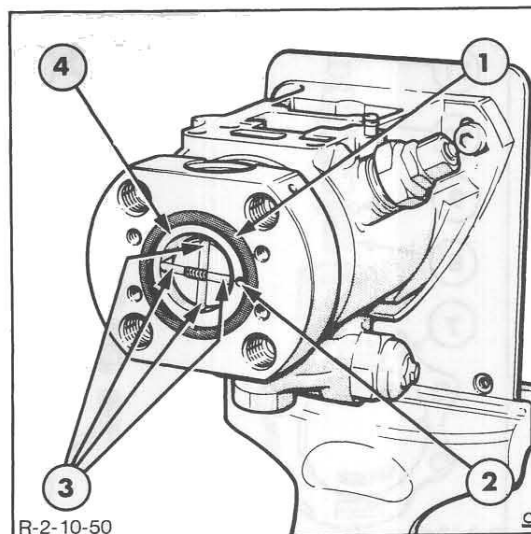

Figure 52
3. Ensure when the rotor is fitted, that the transfer pump blades, Figure 52, all slide freely in the slots of the rotor and then remove.